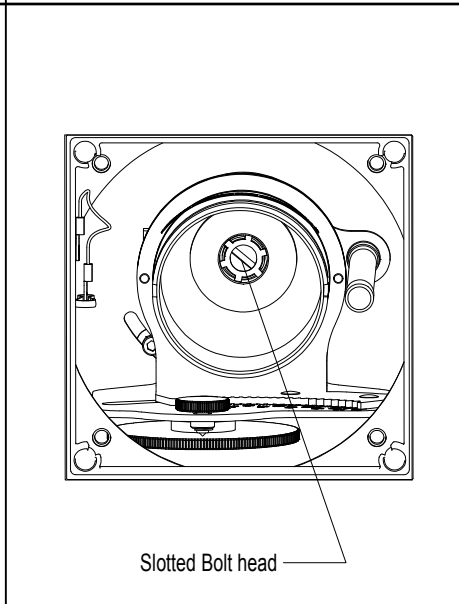

FIG. 2.5 Loosen Bolt
Step 5 Use flat blade screw driver & loosen Bolt while holding Lamp Module from turning - Fig 2.5.